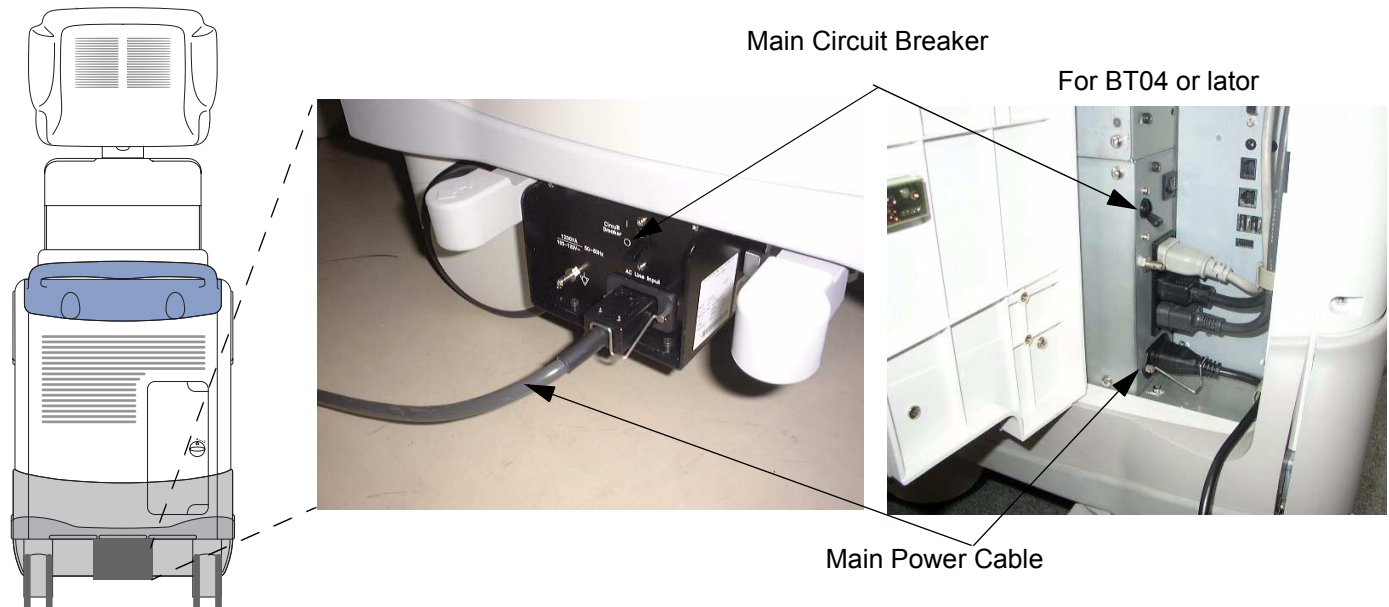

Figure 4-1 Circuit Breaker
- 2.) Switch OFF the Main Circuit Breaker at the rear of the system Refer to Figure 4-1.
- 3.) Disconnect the Main Power Cable if needed. Refer to Figure 4-1.